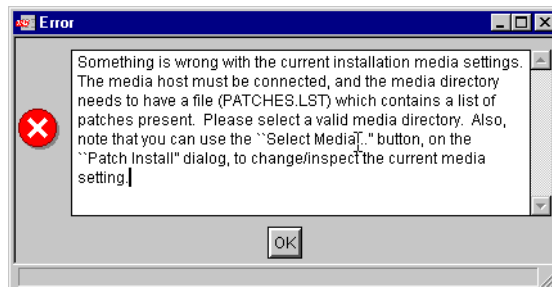

Figure 30. Error message
24. You will probably get the error message, shown in Figure 30, because the program could not find the Installation Images from the default directory. Just click **OK**.